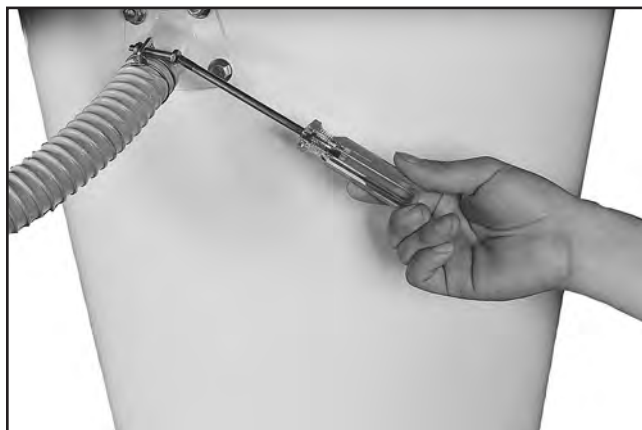

Figure 16. Cyclone vacuum tube and hose attachment.
10. Attach the cyclone vacuum tube to the cyclone funnel with (4) $\frac{5}{16}$ "-18 x $\frac{3}{4}$ " hex bolts and (4) $\frac{5}{16}$ " flat washers (see **Figure 16**).